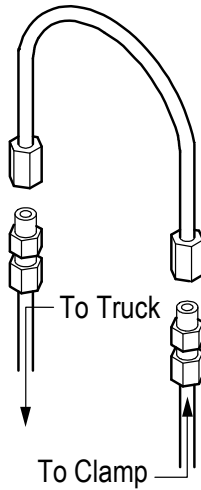

Figure 3-2, Jumper line setup
2. Purge the system by installing a jumper line and operating each hydraulic function (clamp, rotate and side shift, if equipped) in each direction for a minimum of 30 seconds. (Figure 3-2)